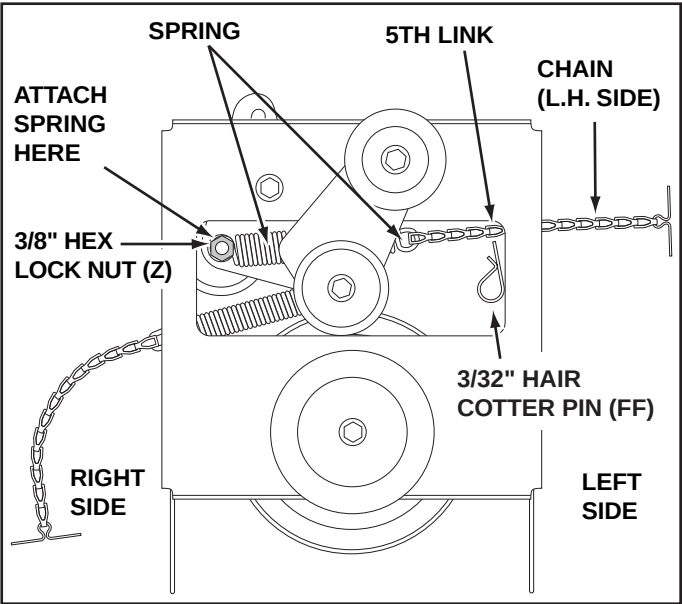

FIGURE 43 VIEW OF BOTTOM
STEP 43: (SEE FIGURE 43)
- Hook the other end of the spring onto the bottom of the bolt and nut which secure the idler pulley to the upper idler arm. Hold the bolt head and assemble a 3/8" hex lock nut (Z) onto the bolt, leaving enough space for the spring to pivot freely between the two nuts.
- Attach a 3/32" hairpin cotter (FF) to the chain, placing it in the fifth link from the spring.